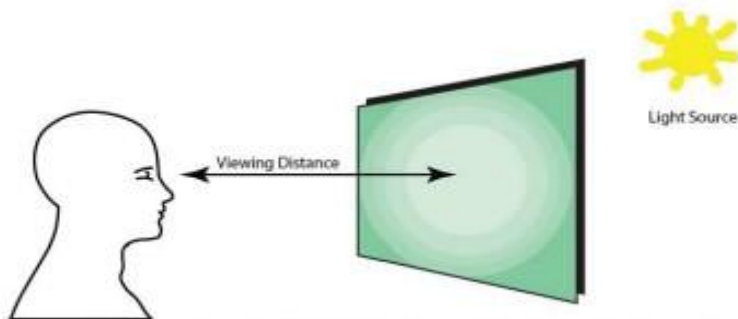

Figure 1: Normal viewing conditions as defined by ASTM C-1172 Standard Specification for Laminated Architectural Flat Glass
- All visual inspections should be made with the naked eye viewing samples in the vertical position at a distance of 10ft (3.0 m) and a viewing angle of 90° to the specimen using daylight (without direct sunlight) or other uniform diffused background lighting (see figure 1) that simulates daylight (minimum 1700 lux measured at the surface of the glass facing the light source).